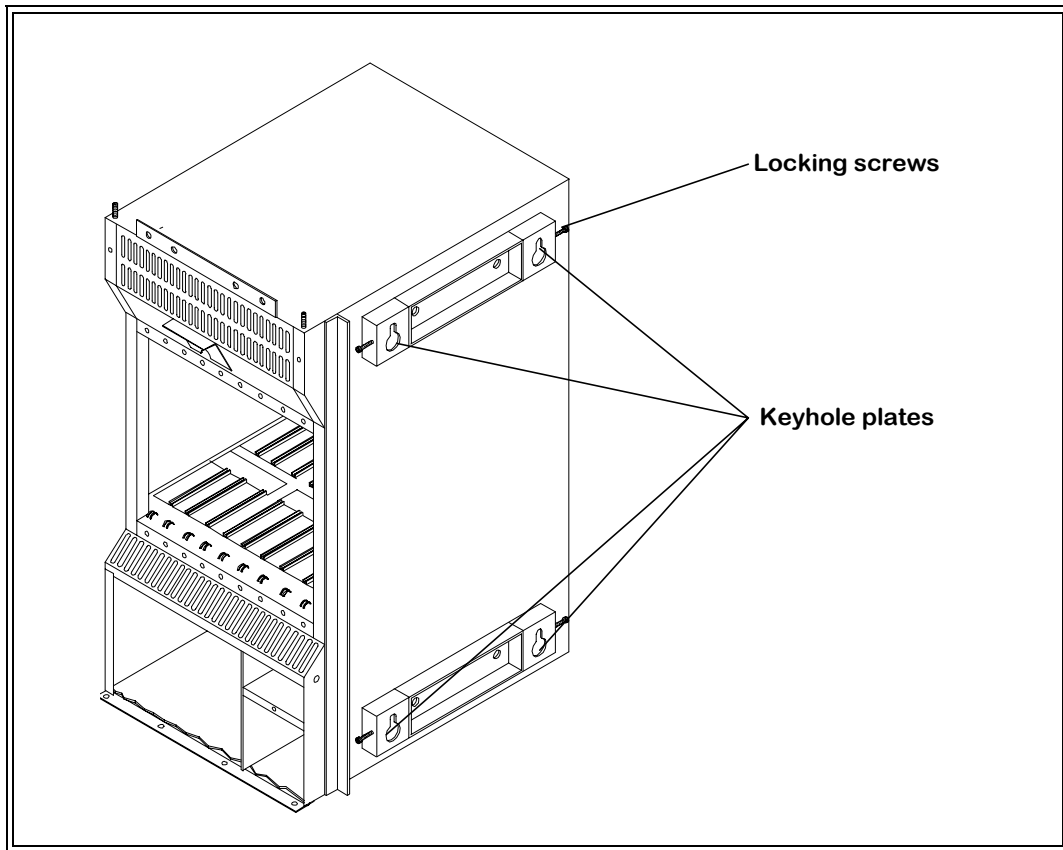

Figure 3-2: View of the side mounted keyhole plates
Step 3 Attach the keyhole plates (shown in Figure 3-2 : "View of the side mounted keyhole plates" on page 30) to the chassis in the desired location using two 10-32 machine screws and washers per keyhole plate. These keyhole plates can be mounted in three locations on the chassis, namely: